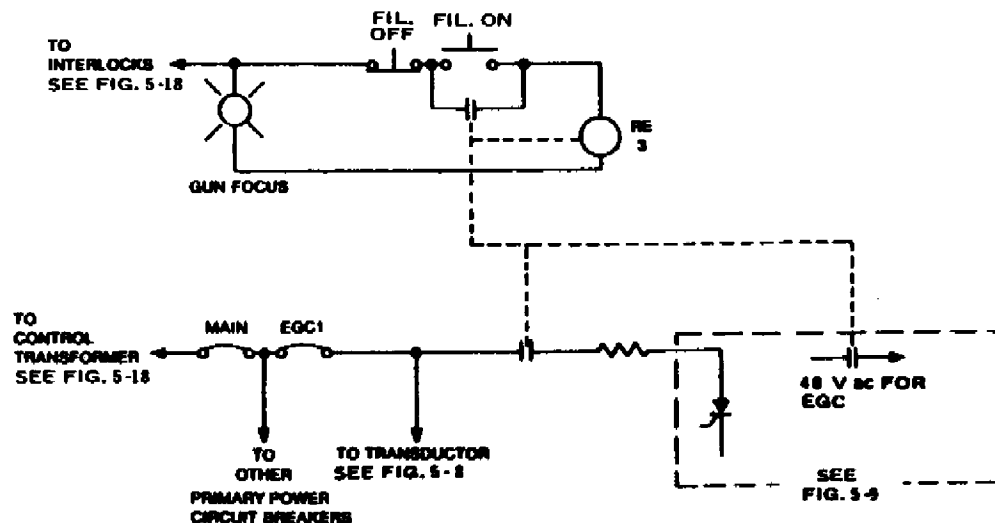

Figure 5-21. CV-8 A (drawing 506-0365 sheet 2) and CV-8 B [drawing 506-0445 sheet 2] electron gun control primary power
5.6.3 Gun Control Primary Power (Figure 5-21)